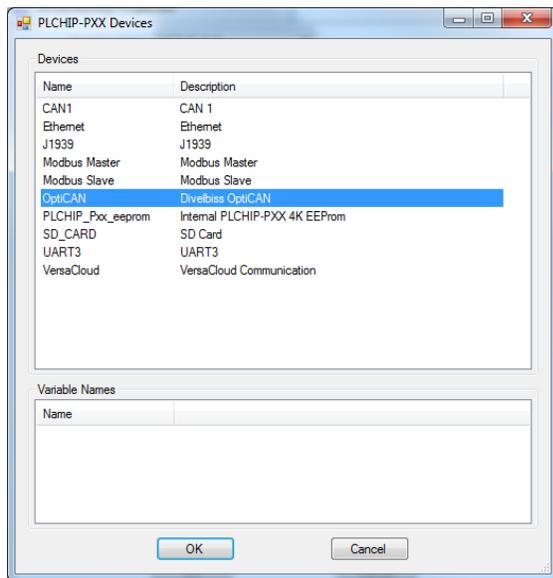

Figure 2-23 - PLCHIP-PXX Devices - OptiCAN
4. Click / select **OptiCAN** (highlight). Refer to Figure 2-23.